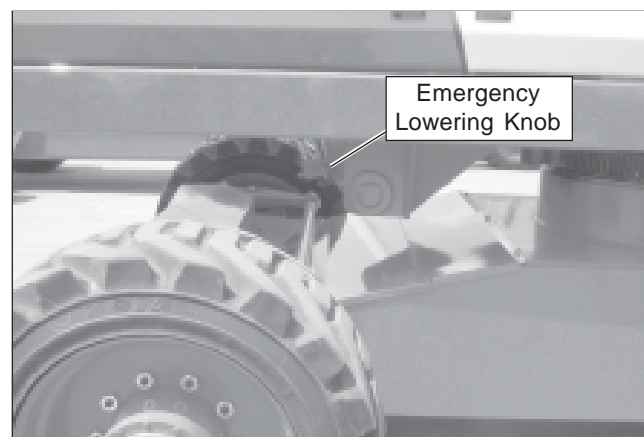

Figure 10.5 – Emergency Lowering Knob
1. Slowly turn the knob (refer to Figure 10.5) to open the bleed down valve. Control the rate of descent by turning the knob.